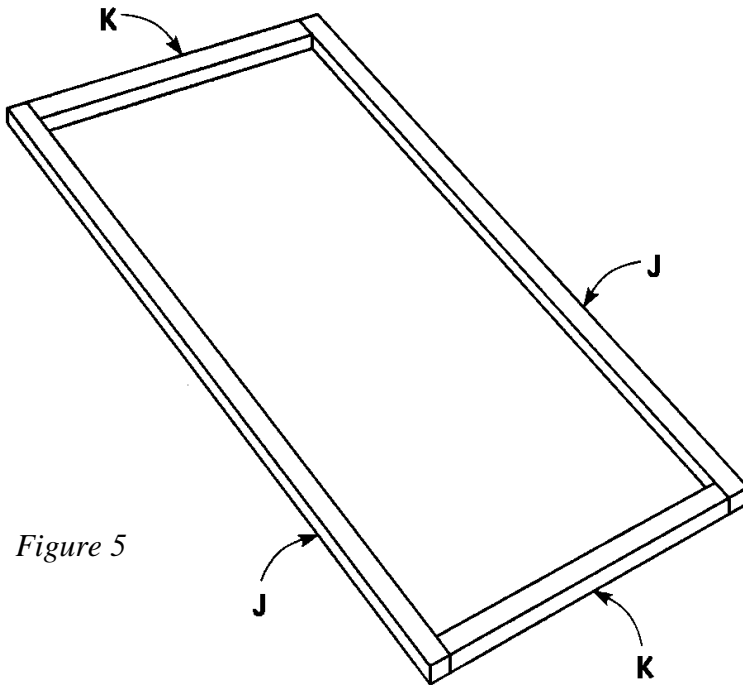

Figure 5
1. Cut two Door Verticals (J) from 1 x 1 pine, each measuring 25-3/4 inches.
2. Cut two Door Horizontals (K) from 1 x 1 pine, each measuring 11-3/4 inches.
3. Place the two Door Verticals (J) on a flat surface, parallel to each other and 11-3/4 inches apart. Fit one Door Horizontal (K) between the ends of the two Door Verticals (J), as shown in *Figure 5*. Apply glue to the meeting surfaces, and nail through the Door Verticals (J) into the ends of the Door Horizontal (K) using one 2" nail on each joint.
4. Install small metal L-angles over each of the four joints between the Door Verticals (J) and